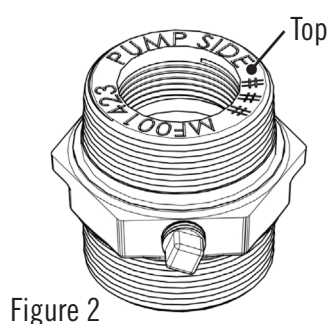

Figure 2
2. Examine the bung adapter to determine top and bottom for proper insertion of the suction pipe. The bung adapter is labeled to help: the end marked "PUMP SIDE" is the top of the bung adapter (Figure 2). Note that the internal threads for the suction pipe are at the TOP of the opening.